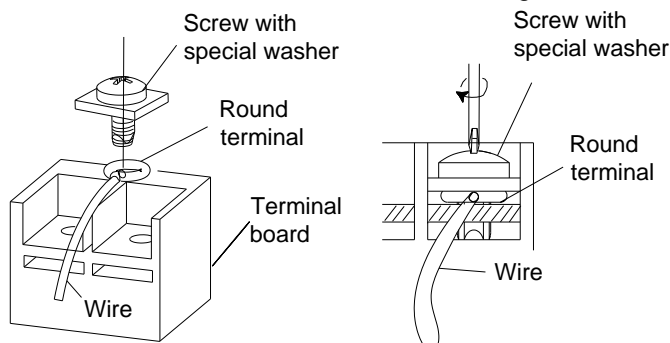

Figure 3-2-11
- 4) Position the round terminal wire, and replace and tighten the terminal screw with a screwdriver.( Figure 3-2-11)